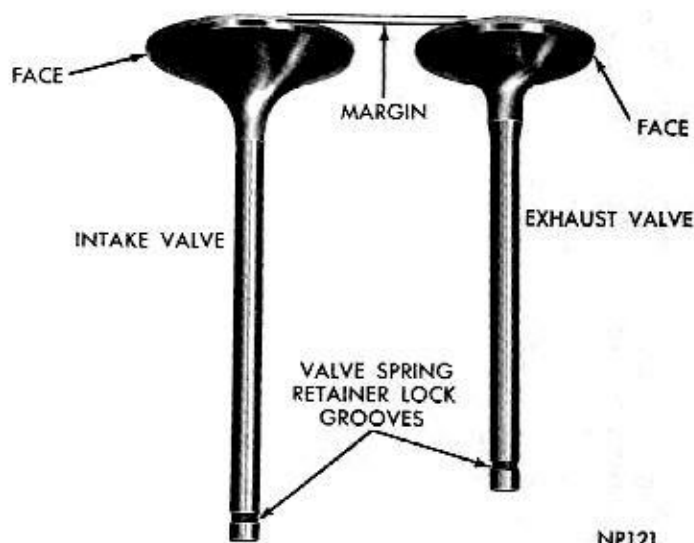

Fig. 12—Intake and Exhaust Valves
(1) The intake and exhaust valve seats and valve faces have a 45 degree angle.
(2) Inspect the remaining margin after the valves are refaced (Fig. 12). Valves with less than 3/64 inch margin should be discarded.